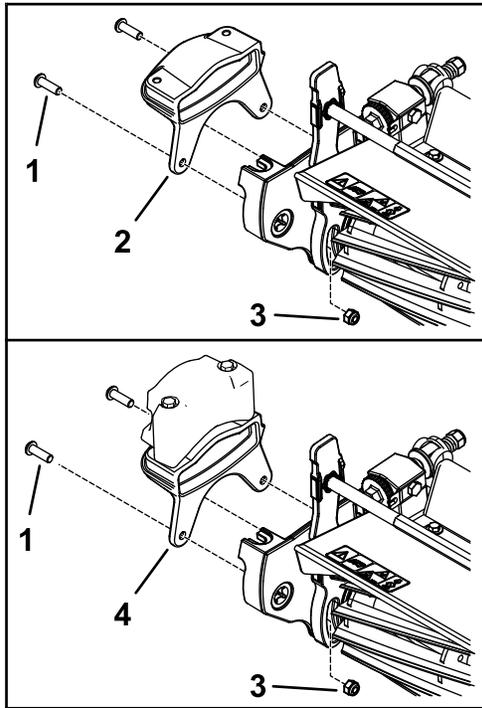

Figure 10
1. Secure the new weight to the side of the cutting unit using 2 bolts (5/16 inch) and 2 nuts (5/16 inch) as shown in Figure 10.
- Attach the groomer drive box to the reel shaft (Figure 10).